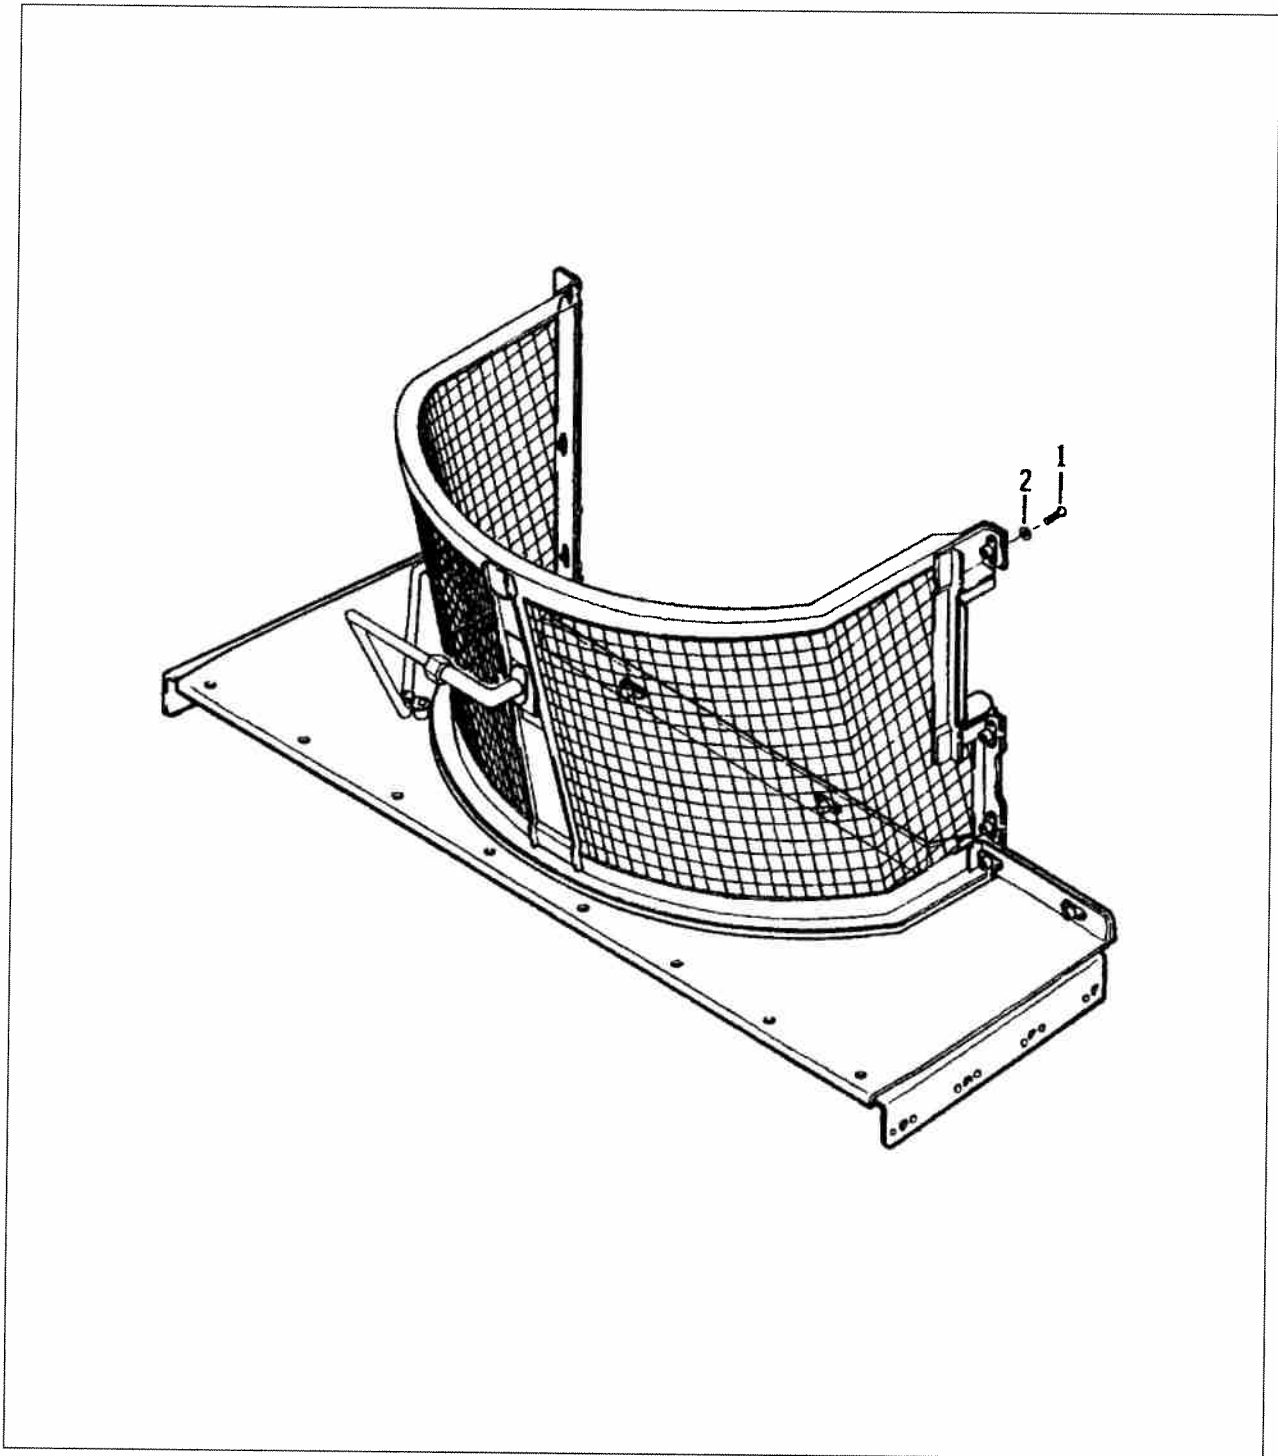

FIGURE 1
6. If an air induction screen is present, remove attaching bolt (AN3-3A) from the air induction screen and retain washer. Refer to Figure 1, items 1 and 2.